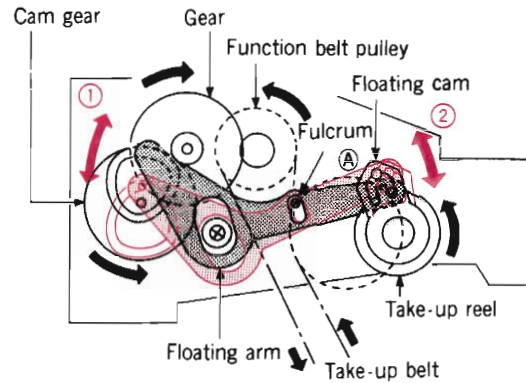
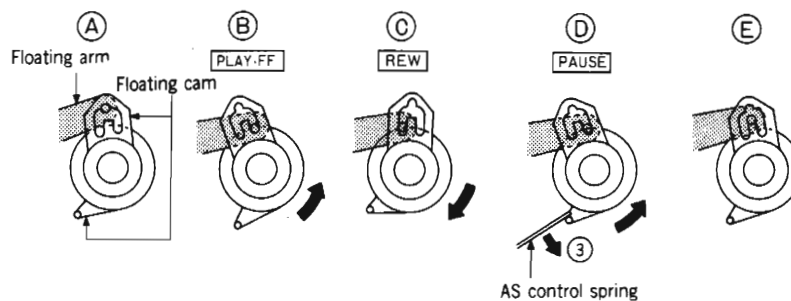
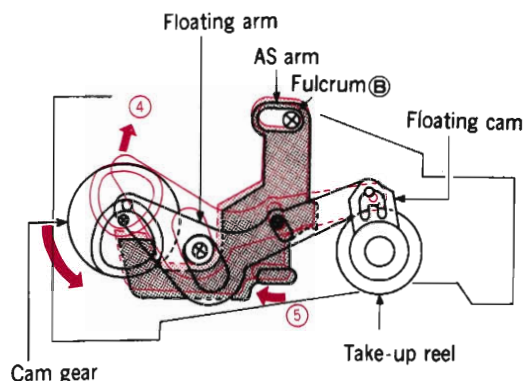

Fig. 13
Fig. 14
Fig. 15
1) Fig. 13 shows the tape-end detector of the auto-stop mechanism.
The floating cam is provided on the same axis as the take-up reel shaft, and it lightly touches the reel by means of the spring. Utilizing the face that when the reel rotates, the floating cam faces in the direction of rotation, the floating movement of the cam gear and the floating arm, which has its fulcrum at (A) as shown in Fig. 13, is applied to this floating cam, to detect the end of the tape.
Shafts, which enter into the cam of the cam gear and the shaft which in turn enters into the slide groove of the floating cam are provided at both ends of the floating cam ; the floating movement is carried out in the direction of arrow ① with its fulcrum at (A) as shown in Fig. 13, by means of the rotation of the cam gear.
When the cam of the cam gear rotates to the position shown in color in Fig. 13, the shaft of the floating arm on the floating cam side goes into the mode shown in (A) of Fig. 14.
Next, when the cam gear rotates to the position shown in black, the position of the shaft on the floating cam side goes into the mode shown in (B) of Fig. 14 during playback or fast forward, and (C) during rewind. These slide grooves are determined by the direction of rotation of the reel.
Incidentally, during pause, since the reel is being stopped, the auto-stop mechanism starts to operate. To prevent this, the floating cam is pressed in the direction of arrow ③ (take-up direction) by the auto-stop control spring as shown in (D) of Fig. 14 during pause and stop.
(The AS (auto-stop) control spring is operated by the sliding of the brake plate ; it is so designed that the AS control spring is released from one end of the floating cam and the floating cam faces in the direction of rotation of the reel, except during the pause and stop modes.) When the tape is finished and the reel stops, the floating cam side shaft of the floating arm slides between (A) and (E) in Fig. 14. This width in which it slides is smaller than that between (A) and (B) or (A) and (C) ; when the floating arm slides up to point (E) in Fig. 14, the floating arm slides in the direction of arrow ④ in Fig. 15 with the floating cam as the fulcrum. The tape-end is detected by means of this sliding of the floating cam.
- 2) When the tape-end is detected and the floating arm slides, the AS arm as shown in Fig. 15 slides in the direction of arrow ⑤ with its fulcrum at ④ .